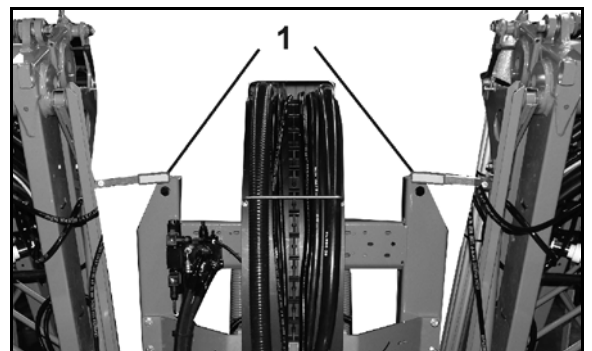

Fig. 11
- Fig. 11/...
- (1) Visual check of the **Super-S** boom lock